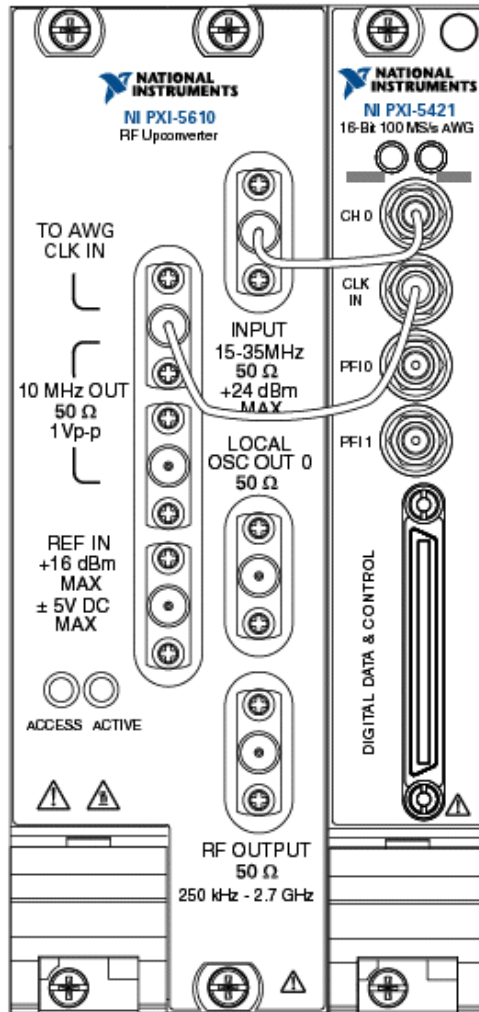

Figure 1: NI 5670 Front Panel Interconnection
1. Verify that both NI 5670 modules are interconnected through the front panels as shown in Figure 1 below.